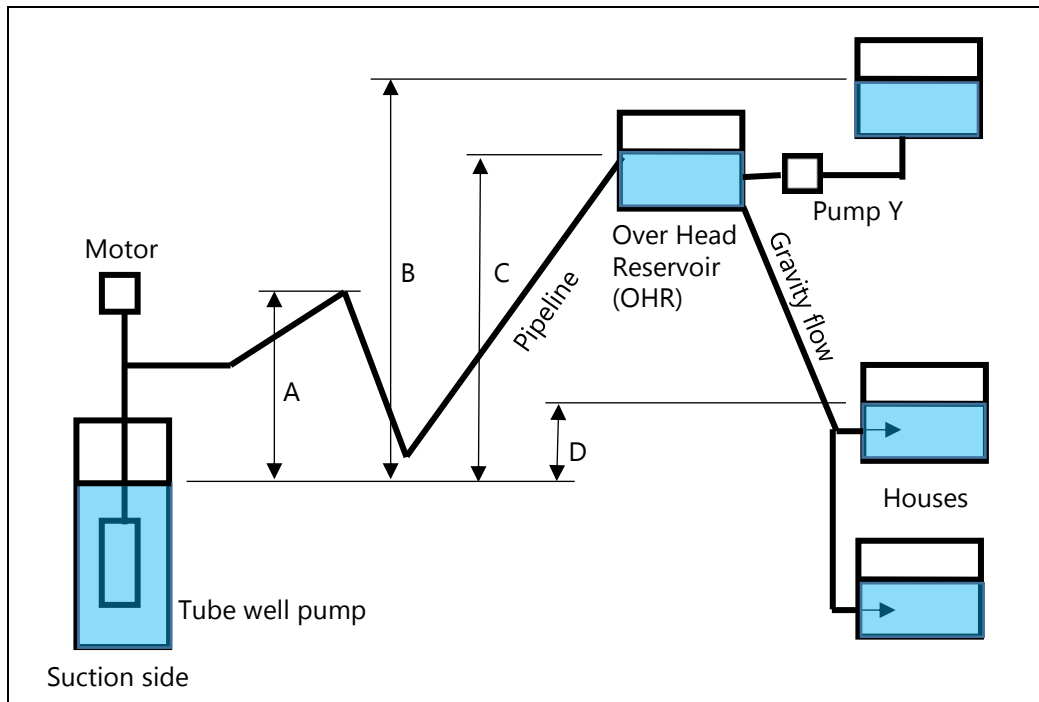

Fig.1 Static head examination
**Please select a right Static head for Tube well pump from A to D(Fig.1).**